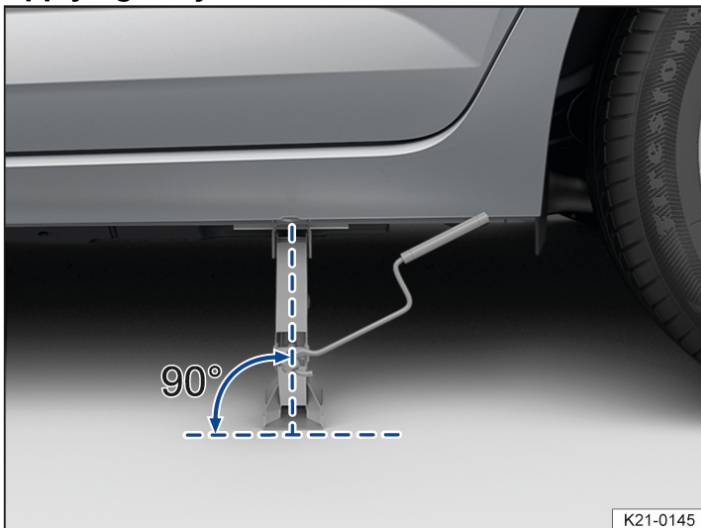
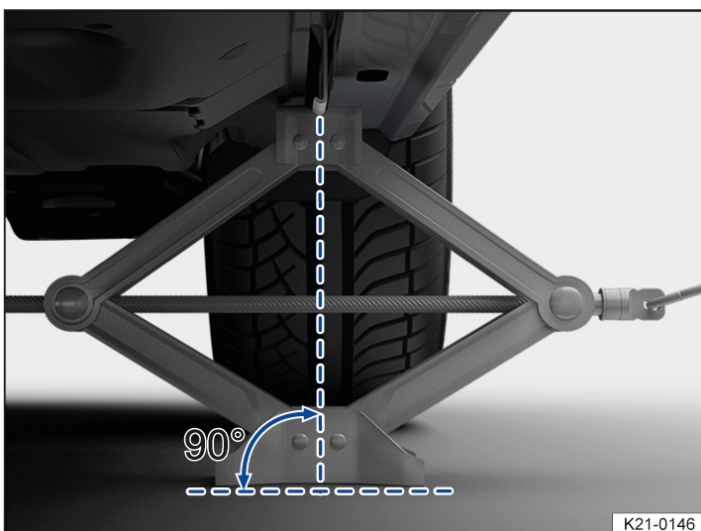

Fig. 3 Correct alignment of the jack.
Fig. 4 Jack applied at the rear left-hand side of the vehicle.
11. Make sure that the entire surface of the foot of the jack is resting securely on the ground and that the foot of the jack is positioned vertically directly beneath the jacking point → Fig. 3 and → Fig. 4.
12. Position the jack and simultaneously continue to crank the claw up until it is in position around the vertical rib underneath the vehicle → Fig. 4.
- Fit the jack only at the described jacking points. The jack claw must grip the vertical rib under the side member securely → Fig. 4.